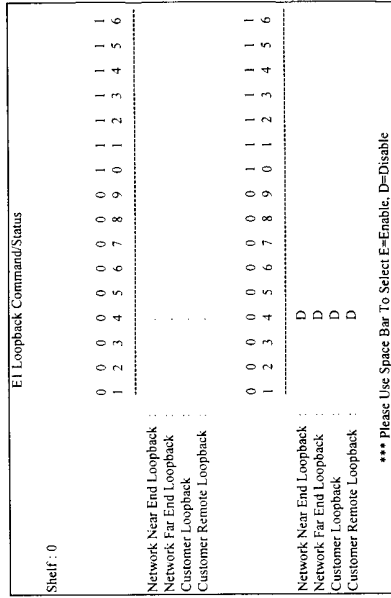

Figure 3-33 E1 Loopback Status/Commands Menu
- Use arrow keys to select E1 Loopback Status/Commands from the System Maintenance Menu. Press the Return or Enter key. E1 Loopback Status/Commands screen appears. (see Figure 3-33)